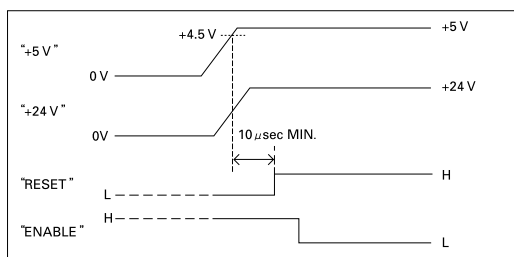

Fig1
- Set "RESET" to High 10 μsecs after "+5 V" rises above "+4.5 V", as shown in Fig 1. When turning on the power with "ENABLE" set to Low, set "RESET" to High after "+24 V" rises completely.